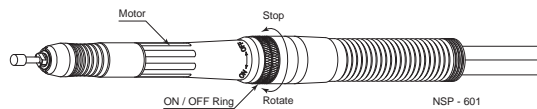

Fig. 16
- To adjust the rotation speed by turn the ON / OFF Ring of the Air Grinder (Fig. 16).